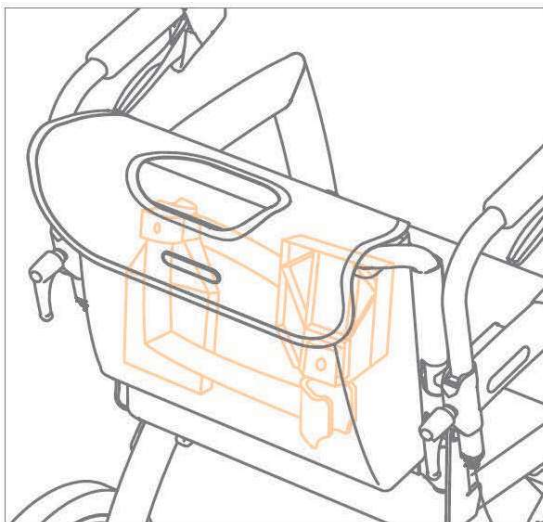

Figure 4
1. Remove the footrests. Slide the footrests up until released from the footrest holders. Put them back into the bag of the Rollz wheelchair package, mirrored to each other (Figure 4).